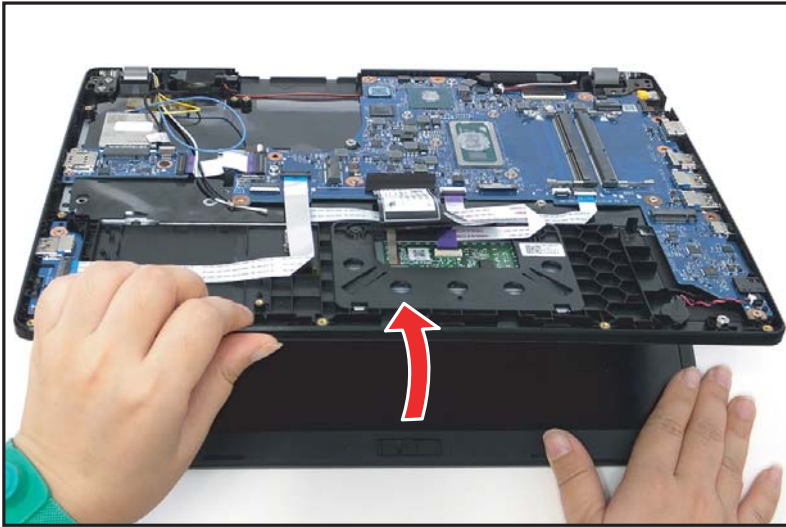

Figure 1-50. Mainboard Removal
2. Lift the top assembly until it is fully open (Figure 1-50).